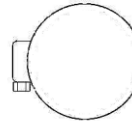

FIGURE 3D
18. Repeat Step 17 for left rear heatshield and align hose clamps as shown in Figure 3D. Check for clearance around drive belt before securing the hose clamps.